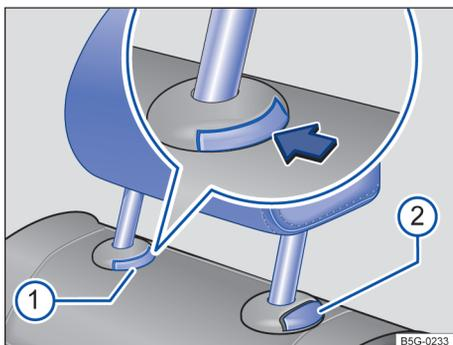

Fig. 73 Removing the rear head restraints.
- Push button → fig. 73 ⓘ in the direction of the arrow and hold it in this position.
- Push the head restraint down while pressing button → fig. 73 ⓘ.